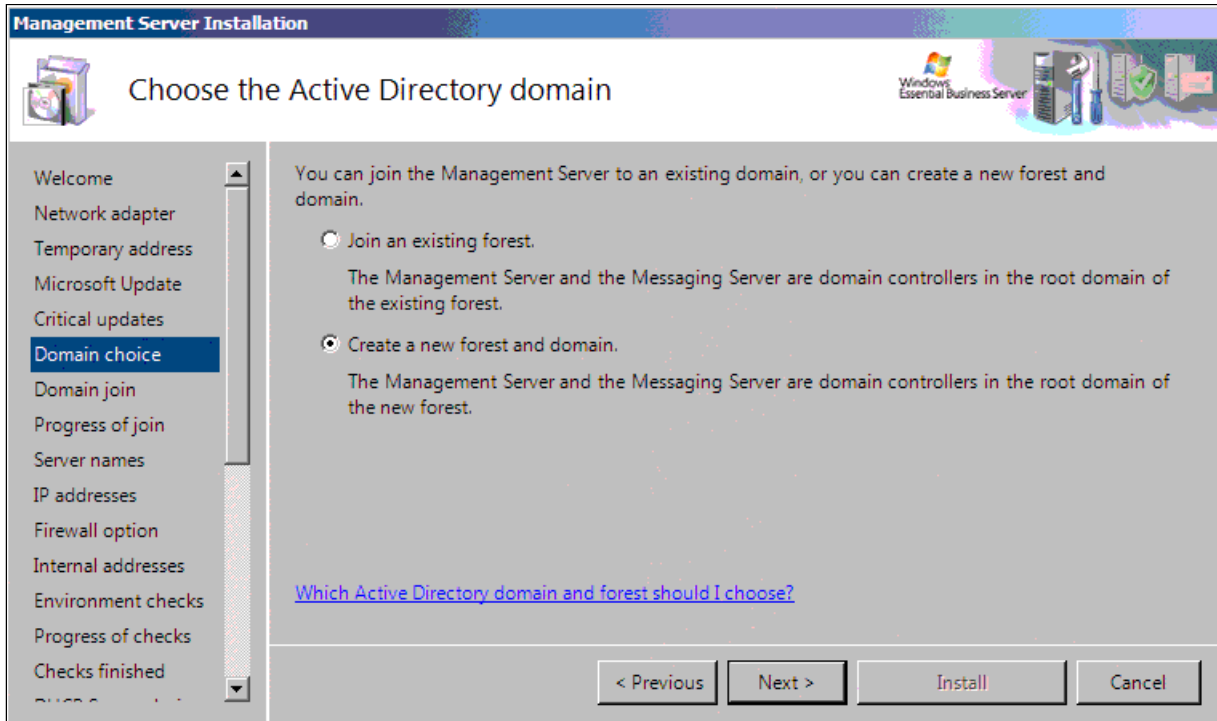

Figure 4-8 Choose the Active Directory domain
15. On the “Choose the Active Directory domain” panel (Figure 4-8), select the appropriate radio button for your requirements. Click **Next**.